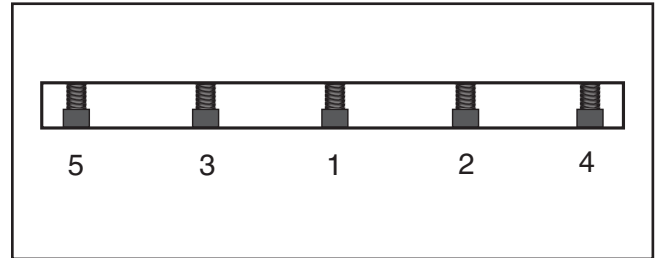

Figure 58. Gib bolt tightening sequence.
9. Rotate the cutterhead to the first knife you started with. Tighten all the gib bolts, starting at the ends and working your way to the middle by alternating left and right, as illustrated in **Figure 58**. Repeat this step on the rest of the knives.